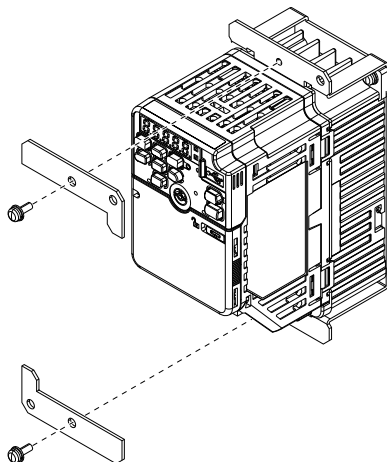

Figure 6.2 Install Bracket 2
2. Use the supplied screws to install 2 each of bracket 2 in the positions shown in Figure 6.2.